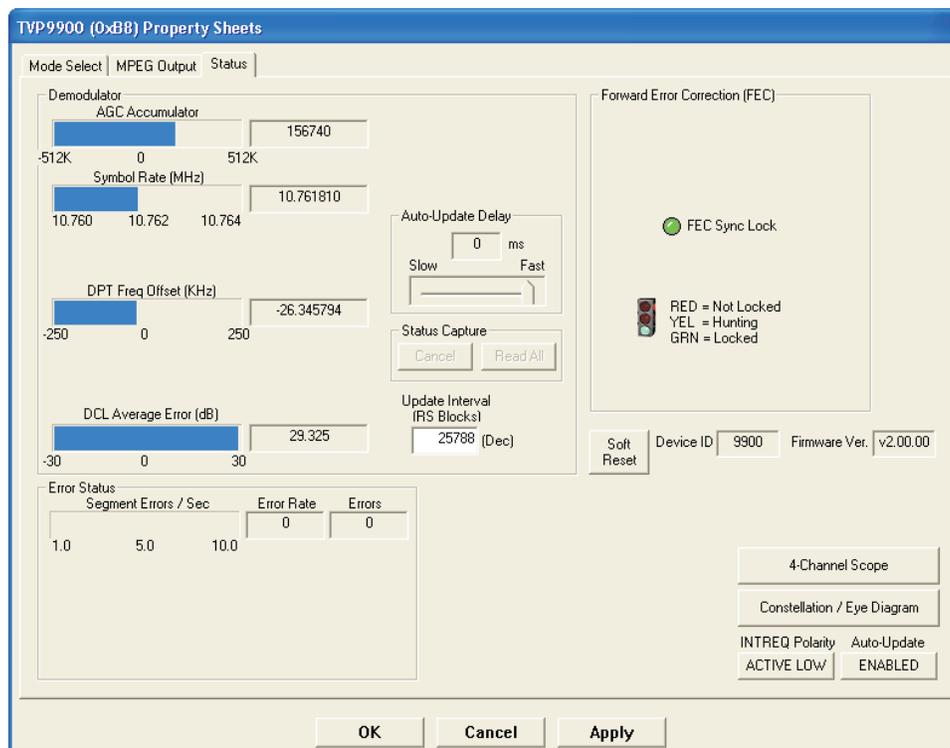

Figure 8. TVP9900 Property Sheets
15. Open the TVP9900 Property Sheets by clicking Edit→Property Sheets→TVP9900. Click on the Status tab, as shown in Figure 8. Click *Auto-Update* to enable it, and then click *Soft Reset*. The demodulator and FEC status are shown on this page.